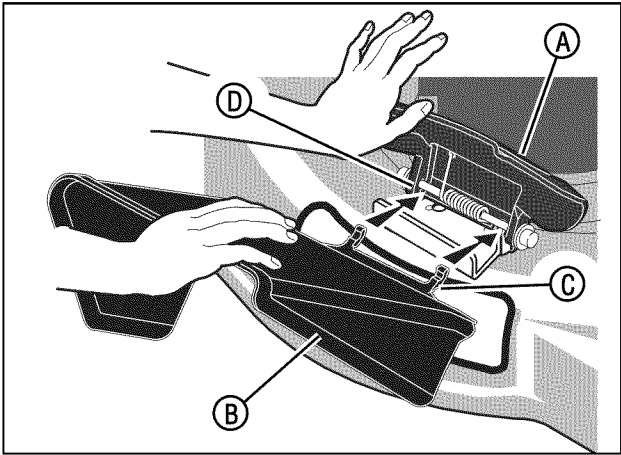

Figure 8: Installing the discharge deflector
1. Raise the recycling cover (A, Figure 8).